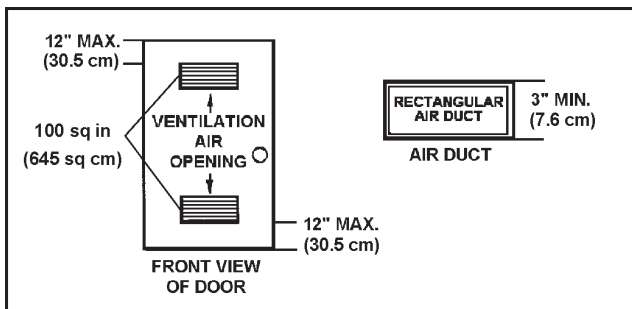

FIGURE 11.
A. ALL AIR FROM INSIDE BUILDINGS: (See Figure 11 and 12)